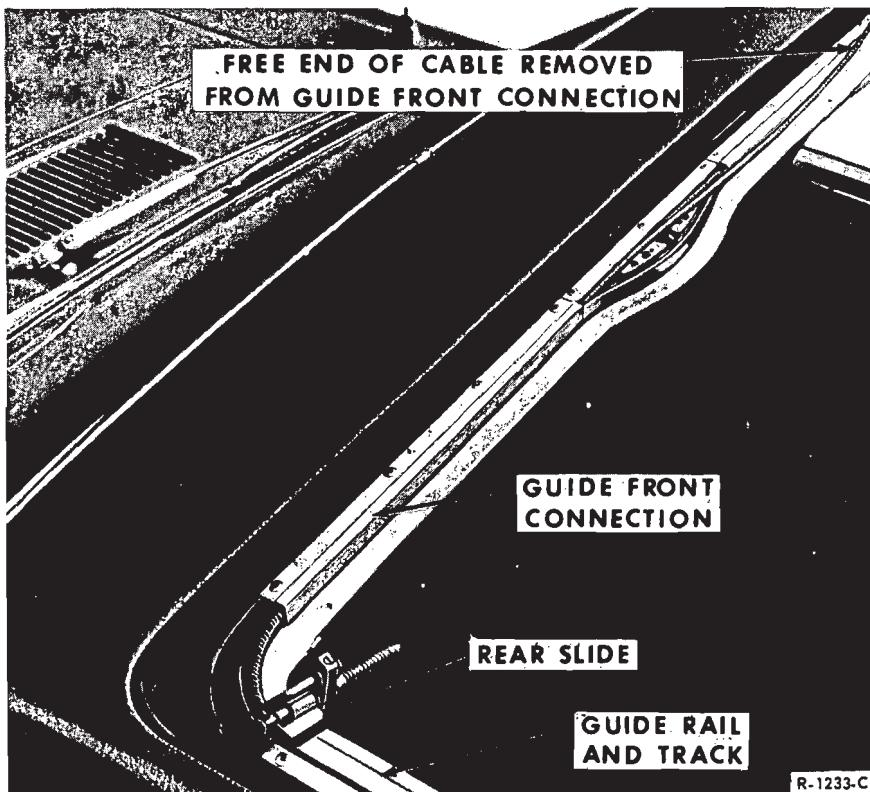

FIG. 5—Removal and Installation of Rear Slide and Cable
4. From the center opening, pull the free end of one cable out of the guide rail and out of the center opening. Pull the opposite end of the cable with the slide assembly forward to the front corner (Fig. 5). Remove the slide from the guide track and pull the slide and cable out of the guide front connection.
1. Position the left rear slide on the guide track (Fig. 5) and move the slide and cable assembly back until the slide is on the center line with the 5th side guide rail screw from the front.